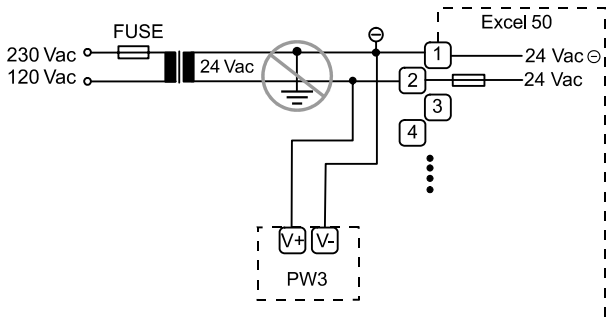

Fig. 1. PW3 Meter Adapter power connections
4. Connect 24 V power to the Meter-Bus Adapter according to Fig. 1. Insert wires into the terminals on the underside of the PW3 and tighten the screws on the front of the unit.